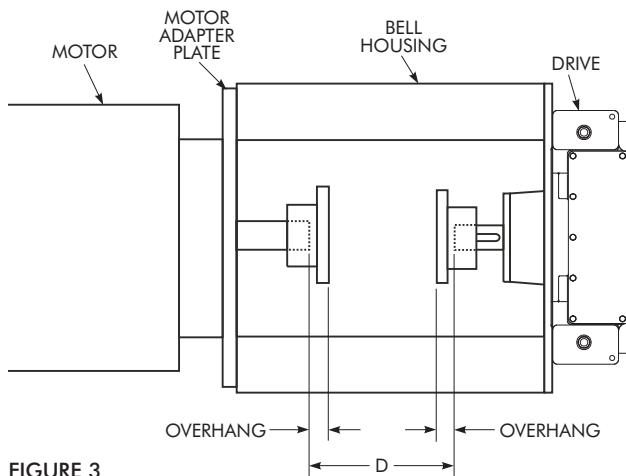

FIGURE 3
Mount the motor to the motor adapter plate on the bell housing before installing the coupling. Once the motor is secured, measure the distance (D) between the end of the motor shaft and the high speed shaft of the drive, see Figure 3. Subtract the distance (D) from the length of the spacer coupling (BE). Then divide this value in half to find the overhang of each hub. $[\text{Overhang} + (BE - D)/2]$ The overhang will be negative, this is the amount each hub overhangs the shaft. Once the overhang is determined, install the hubs according to the instructions provided with the coupling. Install the spacer sections and verify the gap is correct. If not, readjust the hub on the motor shaft. If the coupling is furnished with an interference fit, readjustment will not be possible, take extra care in making measurements. After the proper gap is set, finish installing the coupling per the instructions.